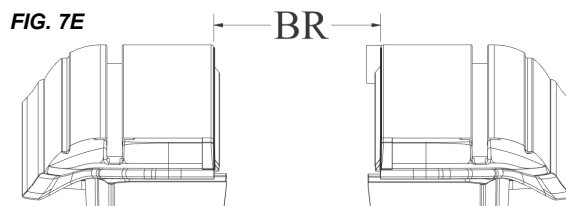

FIG. 7E
Check for proper spacing by measuring between the rails at the canister and the tailgate end of the rails (FIG. 7E). The measurement should be equal to or less than those in the table. The Rail Brackets and Shims have been pre-installed to achieve the proper Between the Rail dimensions (BR) when placed on an average factory truck bed. However, not all truck beds are average dimensionally and some have optional plastic caps or over the rail spray-in bedliners.